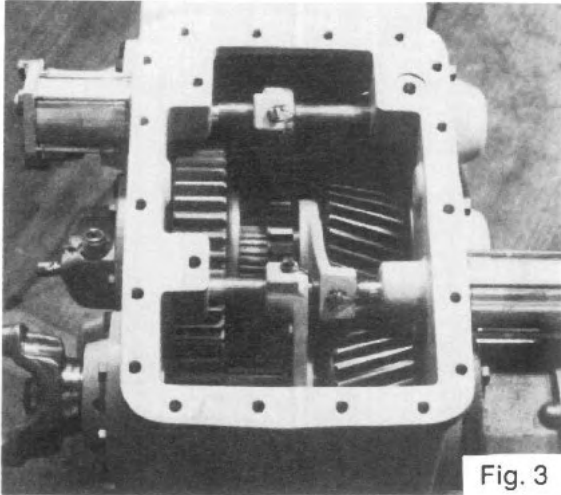

Fig. 3
1. Remove bolts and lockwashers from cover plate. Tap cover plate to loosen and remove (See fig. 3).